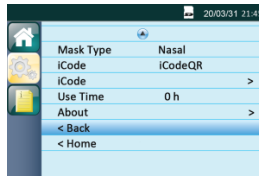

Fig. 13-11
(1) Returning to the Initial Setup Interface Move the cursor to the **Back** option by turning **the Knob** , as shown in Fig. 13-11.